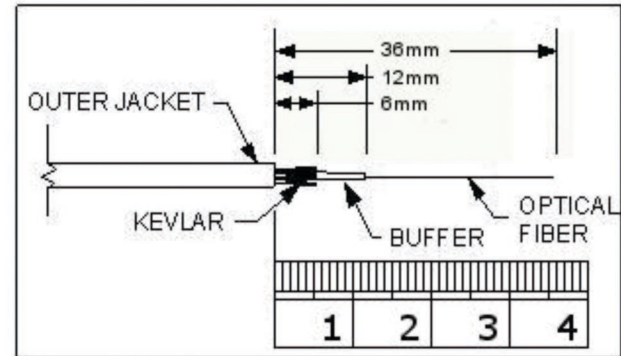

Fig. 1, Cable Preparation
**3.03** Strip the cable to the dimensions shown in Figure 1 using (Item 5) for jacket removal and (Item 2) for Buffer removal), Cut Kevlar to length using (Item 1)